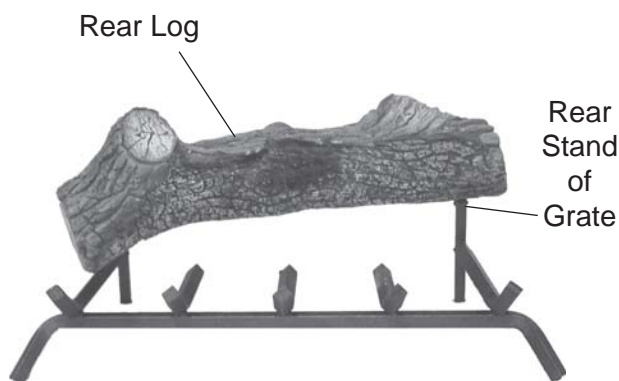

Figure 130 - Placing Rear Log #1 on Back Grate
2. Place Rear Log #1 on back of grate. Left side should fit on grate in front of rear stand. Right side goes on the rear stand of grate. See *Figure 130*.